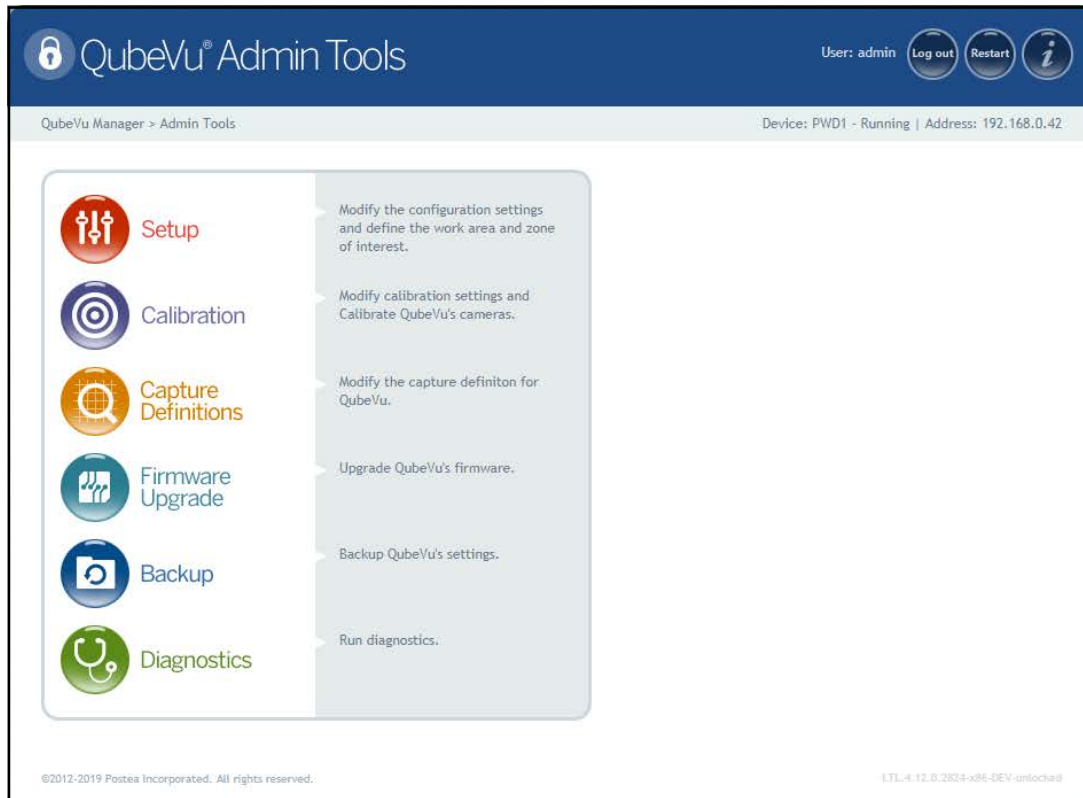

Figure 2-2. Admin Tools Menu
3. Press  **Setup** from the **Admin Tools** menu (Figure 2-2 on page 9) to enter the **Setup** menu.